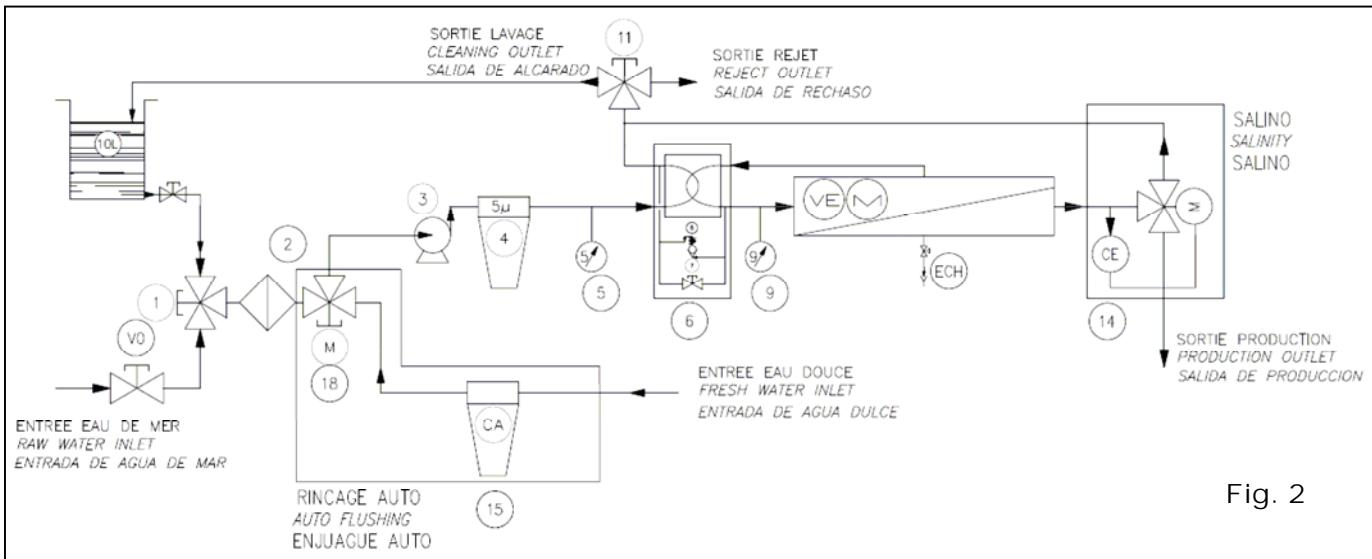

Fig. 2
3.1 – WATER SYSTEM (SEE FIG.2 AND FIG.3 NEXT PAGE)